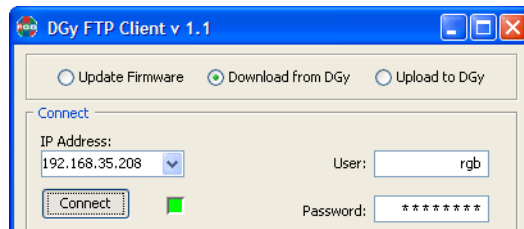

Figure 4-4 FTP Download Connection Established
4. Click on the **Connect** button and wait for the status icon to the right of the button to change from red to green (this may take from 30 to 90 seconds depending on network traffic). The green icon indicates successful connection to the *DGy 201x* and that it is ready to download clips. See Figure 4-4 below.